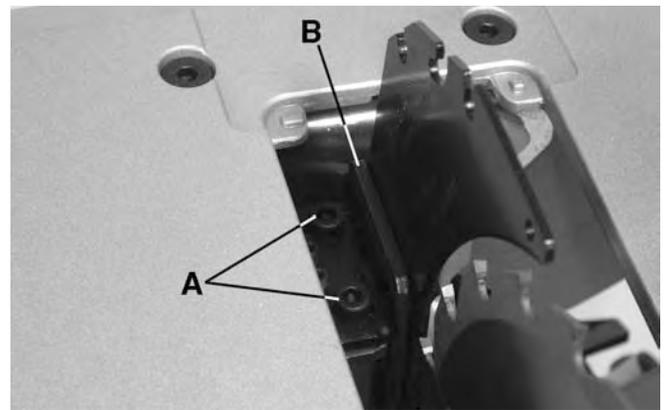

FIGURE 11
2. If an adjustment is necessary, loosen 2 cap screws (A) Fig.11 that hold the mounting bracket (B). Adjust the position of the riving knife to the right or left until it is perfectly aligned with the blade. Retighten cap screws.